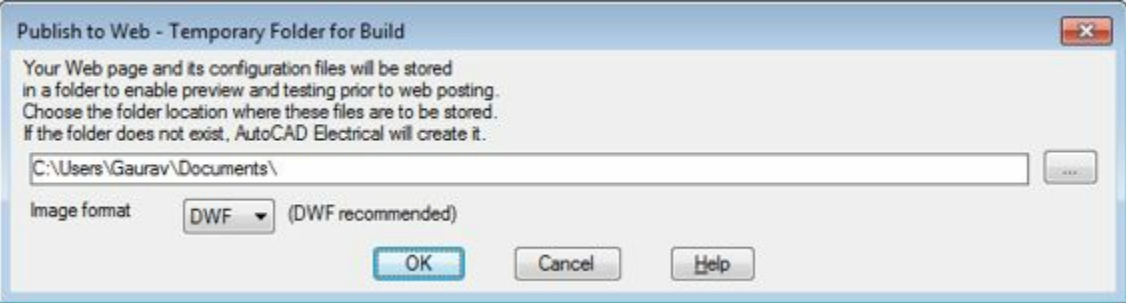

Figure-33. Publish to WEB dialog box
- Click on the **Publish to WEB** tool from the **Plot/Publish** drop-down in the **Project Manager**. The **Publish to WEB** dialog box will be displayed as shown in Figure-33.